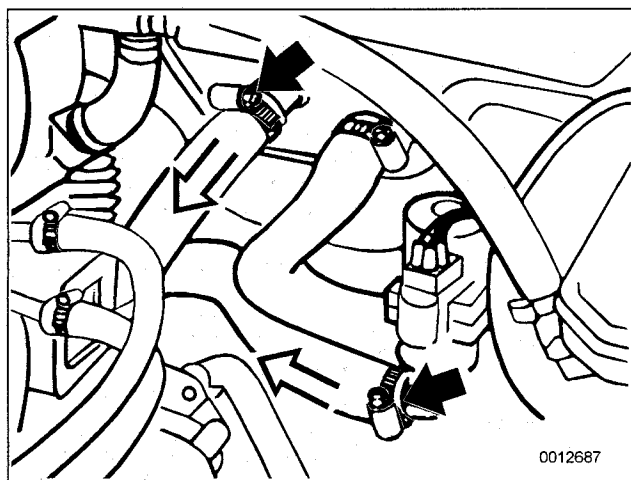

Fig. 2. Coolant hoses at heater valve and heater core to be disconnected (arrows).
- Disconnect heater hoses at rear of engine. See Fig. 2.